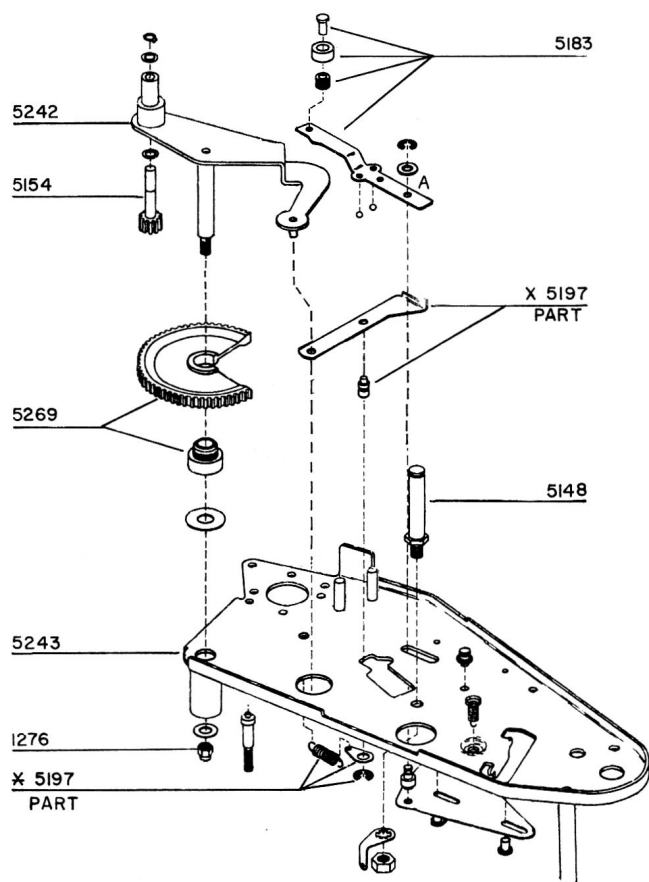

FIGURE 3 SUB PLATE ASSEMBLY
the strike arm (5115 Fig. 3). It should clear the sub plate by about 1/16" at the other end. If the clearance is too small, increase it by levering up the end of the striker feed lever with a screwdriver.
This is a very sensitive velocity type trip. Failure to function may be due to tightness or dirt on the members. To correct this, remove the members and clean thoroughly. The members are held in place by circlips. Light oil may be applied at the pivots ONLY. Insure that no oil gets to the striker roller (on Ref 5115 Fig. 3) as oil causes the rubber roller to swell.
- B) Remove nut (Ref. 1276 Fig. 3).
- C) Lift drive wheel release lever (Ref. 5242 Fig. 3) and lift intermediate gear from its spindle.
- B) Place the assembly on the sub plate with the spindle through the long boss on the sub plate and the pin of part 5242 through the hole in part 5197 (Fig. 3).